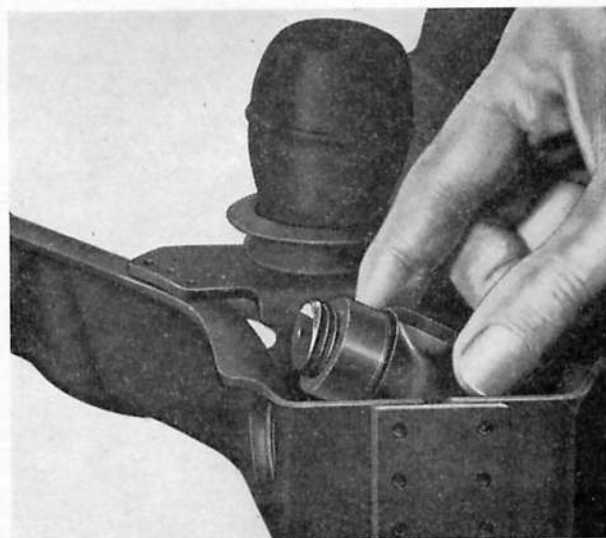

Fig. K.38. Withdrawing the trunnion from the lower arm
5. Push the unchamfered threaded end of the trunnion into the adjacent bore of the arm and withdraw the trunnion by lifting out the opposite end (Fig. K.38).